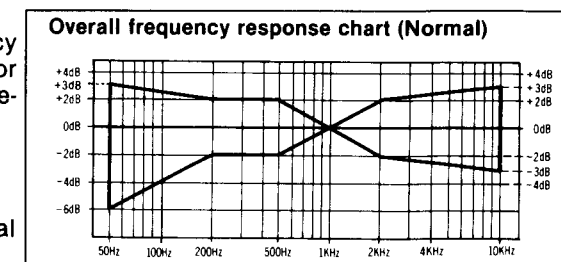
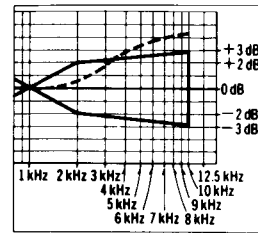
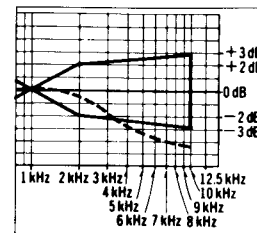

Fig. 10
Fig. 12
Fig. 13
- Playback the signals recorded in step 5, and check if the frequency response curve is within the limits shown in the overall frequency response chart for normal tapes (fig. 10). (If the curve is within the charted specifications, proceed to steps 7, 8 and 9.) If the curve is not within the charted specifications, adjust as follows;
When the curve exceeds the overall specified frequency response chart (fig. 10) as shown in fig. 12.
- 2) Repeat steps 5 and 6 for confirmation (Proceed to steps 7, 8 and 9 if the curve is now within the charted specifications as shown fig. 10.)
- 3) If the curve still exceeds the specifications (fig. 10), increase bias current further and repeat steps 5 and 6.
When the curve falls below the overall specified frequency response chart (fig. 10) as shown in fig. 13.
- 3) If the curve still falls below the charted specifications (fig. 10), reduce bias current further and repeat steps 5 and 6.